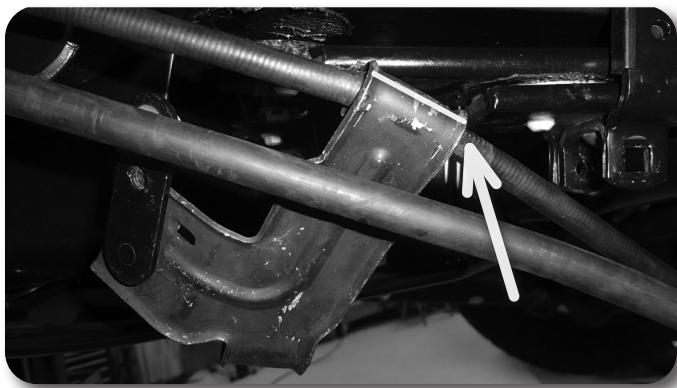

Figure 3
11. Cut the bracket for the E-brake cable that is going to the passenger side of the vehicle in order to release the cable from the bracket. See Figure 3 for which bracket and where to cut. It is easiest to cut most of the way through the steel and then bend the flange up to release the cable from the bracket. Be careful not to cut the E-brake cable!
16. Install the new E-brake cable bracket with the provided 1/2" hardware and 5/16" hardware as shown in Figure 3. The smaller driver side E-brake cable bracket will be installed in the same position as it was from the factory, but attached with the 5/16" hardware.